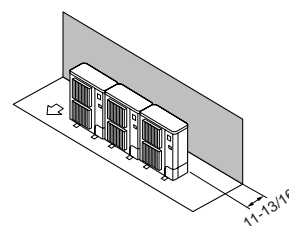

Fig. 2-8
- ① Obstacles at rear only (Fig. 2-8)